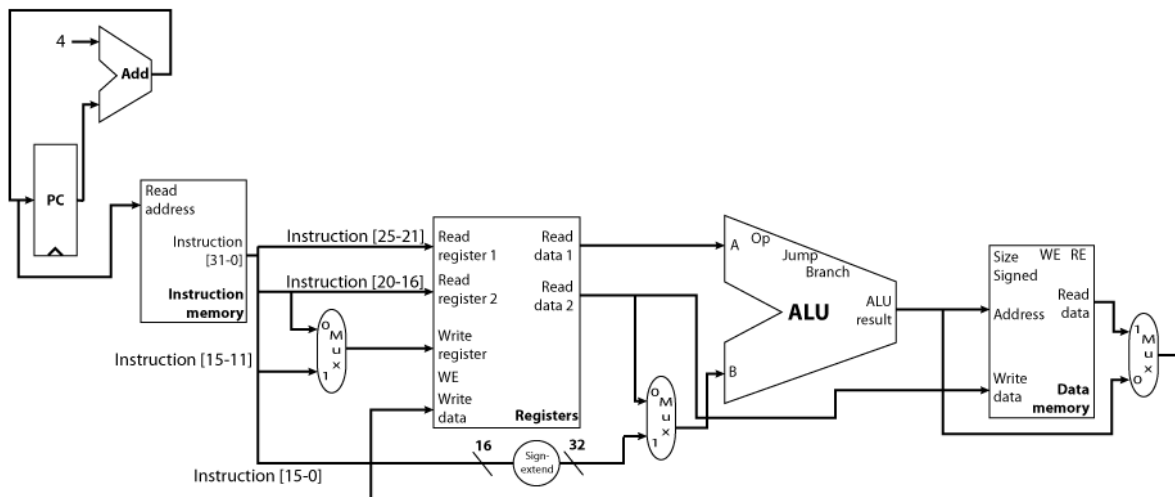

Figure 2 Single-cycle CPU Datapath
- As a first step, you should implement the single-cycle MIPS CPU Datapath. As in Figure 2.